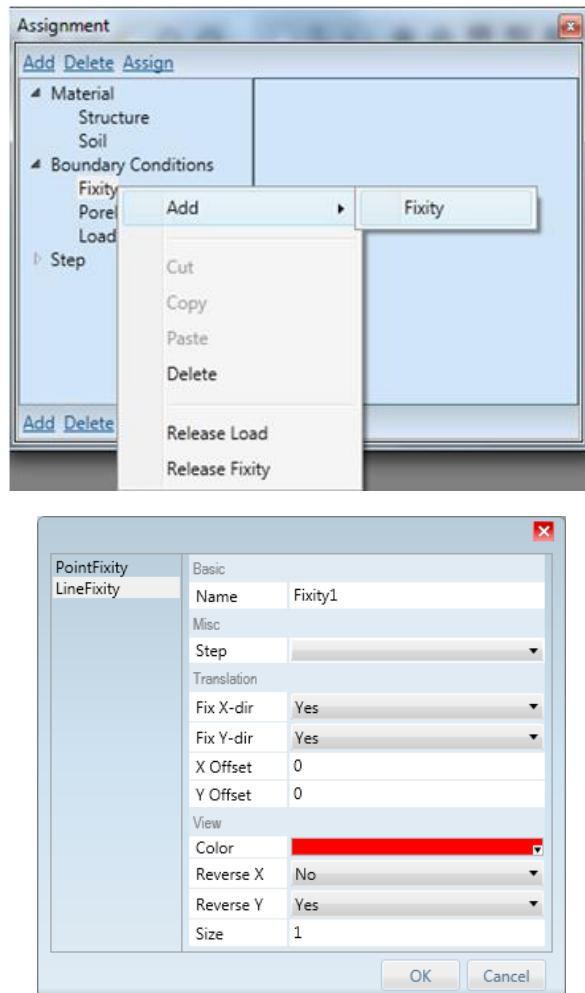

Figure 32. Defining a fixity.
1. To assign the fixity, right click on **Fixity** and go to **Add | Fixity**, as shown in Figure 32. Or, select the appropriate **Step**, right click on it and click **Add | Fixity**. A window will pop up to set up the type of fixity and its values (see Figure 32).